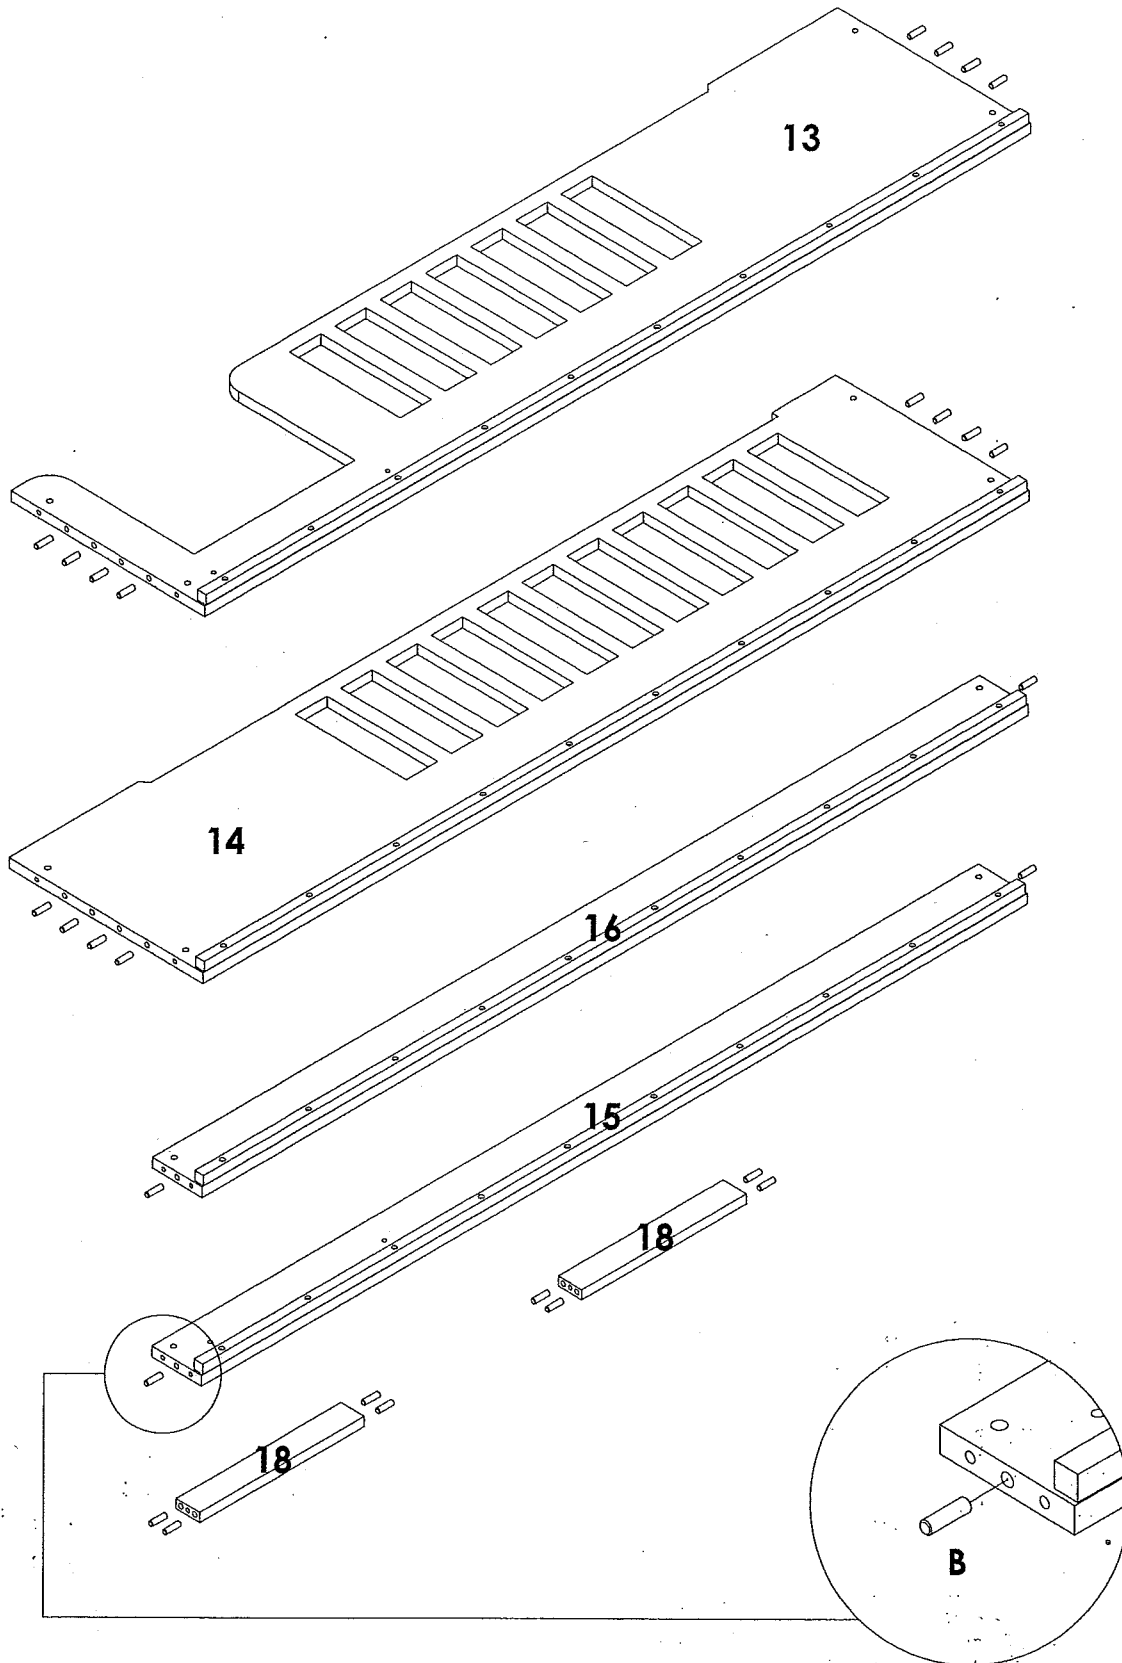

Figure 1
1. Insert the **Plastic Dowels (B)** into Ø10MM holes on **Guard Rails (Front) & (Rear), Side Rails (Front) & (Rear)** by using a Rubber Hammer as shown in **Figure 1**.